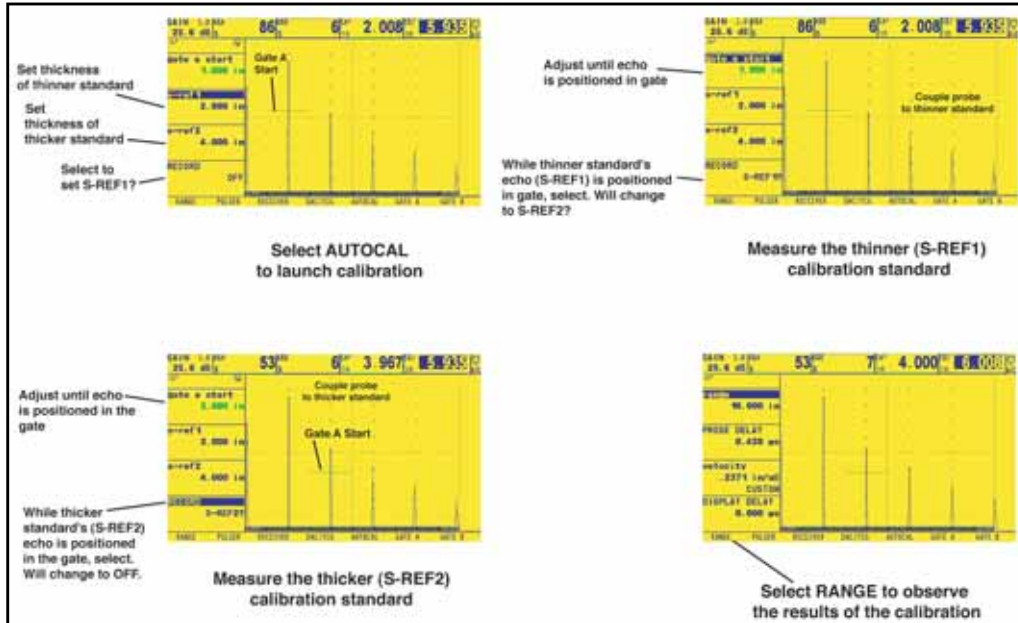

Figure 14: Auto Calibration Procedures
Note: *While following the instructions in this section, refer to Figure 14 on page 70.*
4. Apply couplant and couple the probe to the **thinner** calibration standard. With the A START function highlighted, press the function toggle or move the joystick () to shift the starting point of Gate A until Gate A lies over the echo corresponding to the thickness of the thinner standard (see *Figure 14 on page 70*). Coarse adjustments are made with the function toggle, while fine adjustments are made with the joystick.
6. Apply couplant and couple the probe to the *thicker* calibration standard. Then, use the joystick () to select the function titled A START. Press the function toggle or move the joystick () to shift the starting point of Gate A until Gate A lies over the echo corresponding to the thickness of the thicker standard (see *Figure 14 on page 70*). Coarse adjustments are made with the function toggle, while fine adjustments are made with the joystick.